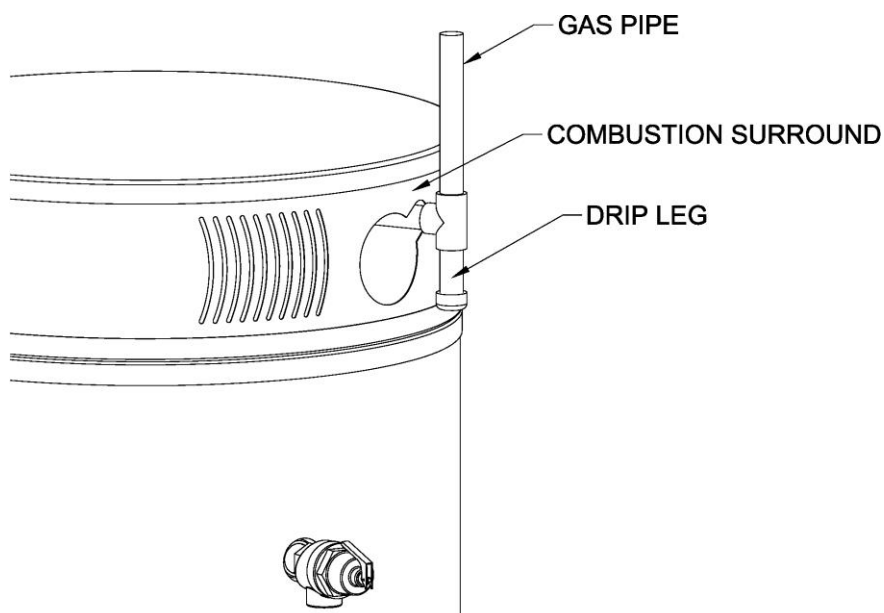

Figure 22. Drip Leg
8. Cement heater combustion-air and vent pipes to concentric Y fitting termination assembly. See Figure 22 for proper pipe attachment.